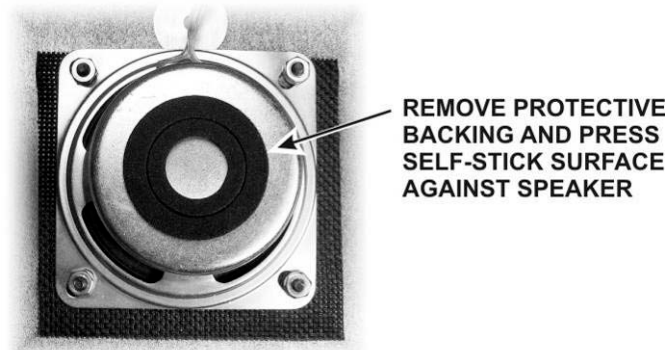

Figure 50. Attaching the Speaker Pad.
- Remove the covering over the self-adhesive side of the foam pad and press the adhesive side against the speaker magnetic shield (see Figure 50). The pad will compress between the loudspeaker and the top of the KRX3A enclosure when the cover is installed.